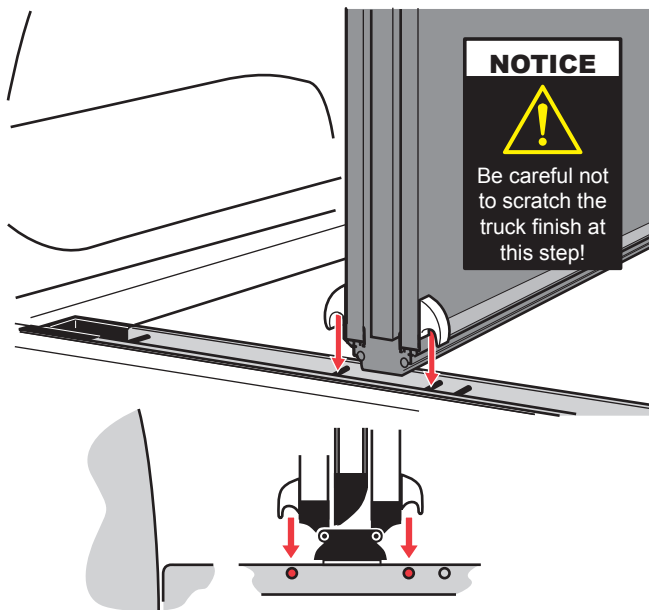

Figure 15
- a) Lift folded tonneau onto side rails. (Fig. 15, driver side shown) Stand the bundled panel system on the side rails so that the retaining hooks line up with the two pins inside the side rail as shown here.